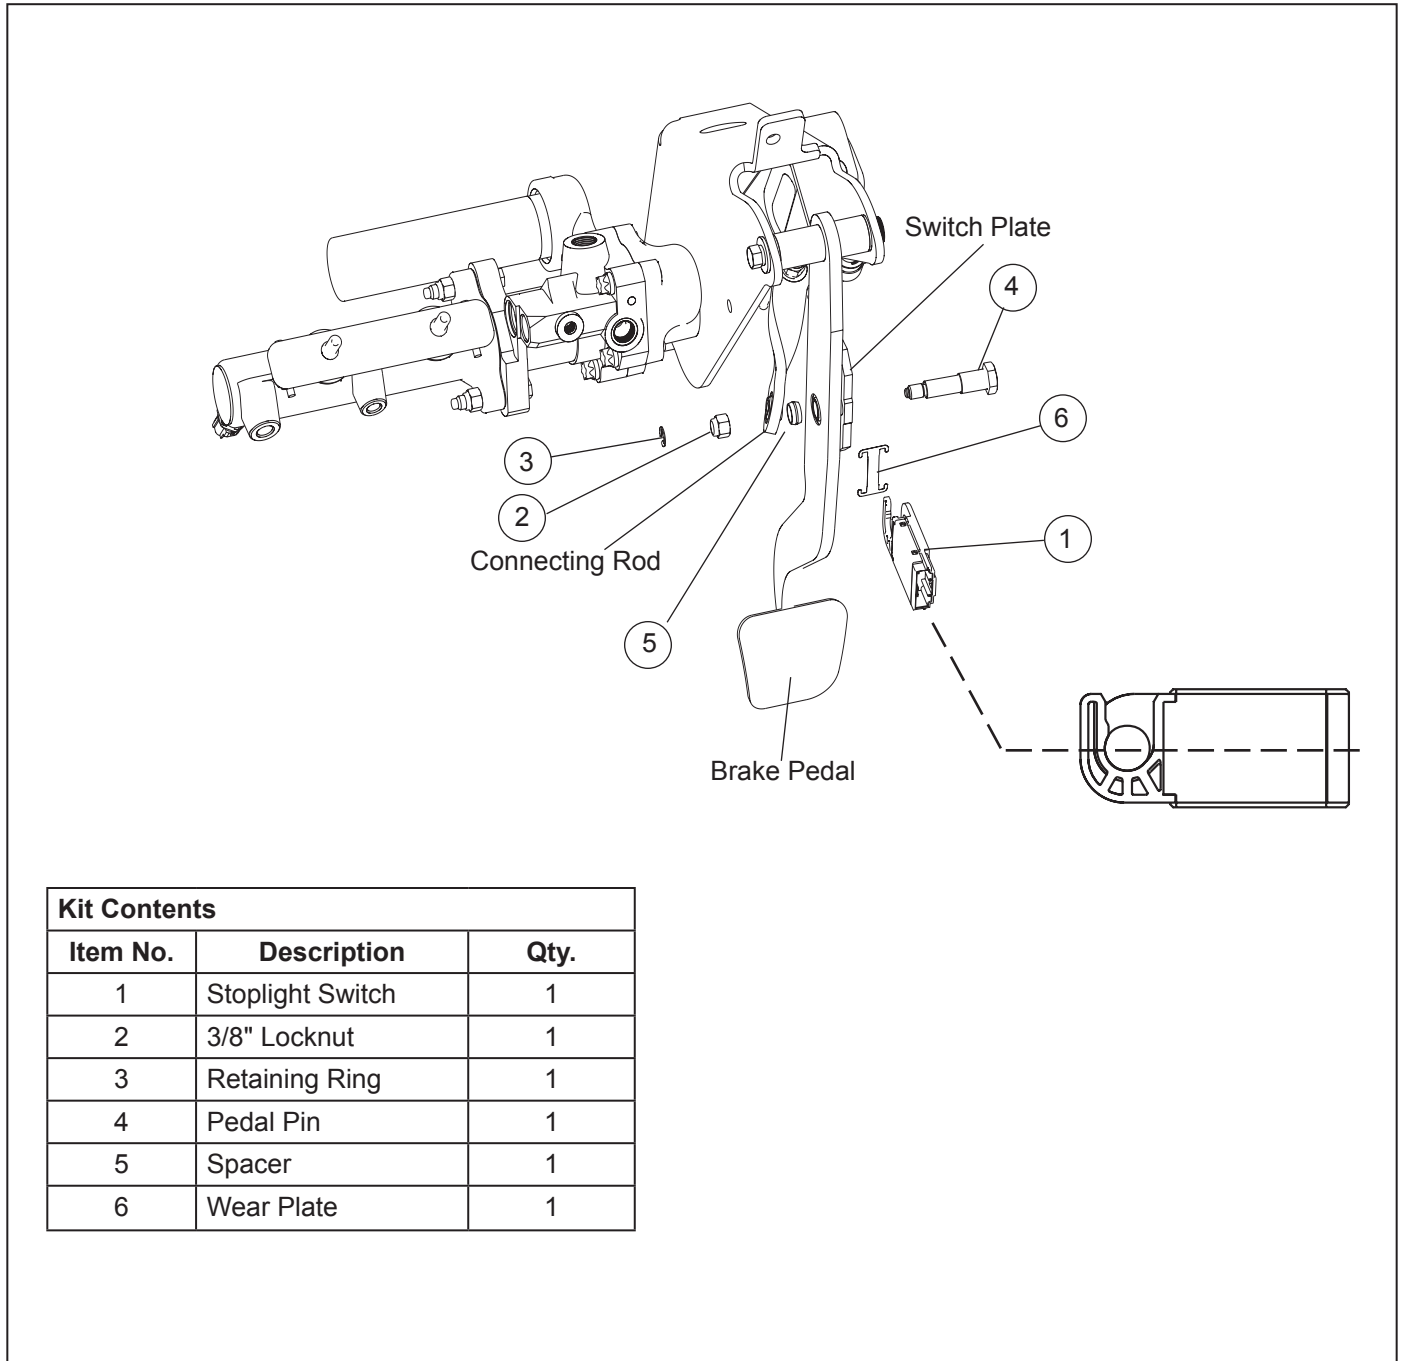

Figure 1 – Stoplight Switch Kit Contents
1. Position the wear plate (6) on the stoplight switch (1).
2. Install the stoplight switch and wear plate on the brake pedal arm straddling the switch plate. *See Figure 1 for orientation.*
4. Slide the pedal pin (4) through the switch plate, switch, and brake pedal arm.
5. Insert the spacer (5) between the brake pedal arm and the connecting rod and slide the pedal pin through both.
6. Secure with the 3/8" locknut (2). Tighten to 180-220 in-lbs.
7. Install the retaining ring (3) in the retaining ring groove on the end of the pedal pin (4). Ensure the retaining ring is secure.
8. Connect the electrical connector to the new stoplight switch (1). An audible click ensures the connector is properly seated.